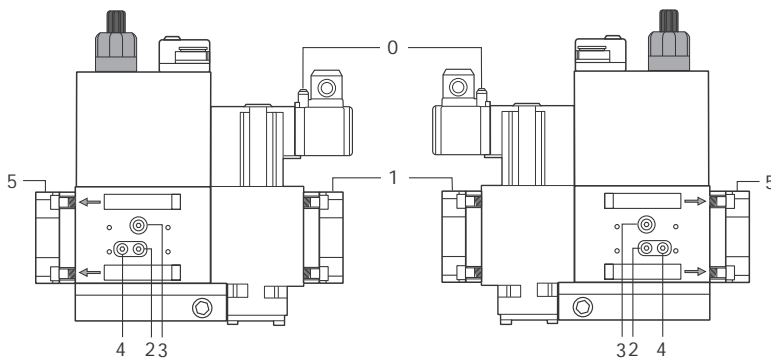
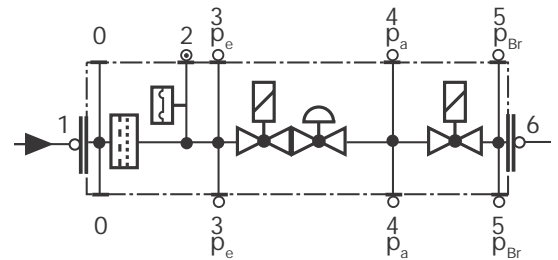

Fig. 37
Fig. 38
- Change the filter if the pressure difference between pressure connection 1 and 2 (Fig. 37-Fig. 38)  $\Delta p > 10$  mbar.
- Change the filter if the pressure difference between pressure connection 1 and 2 (Fig. 37-Fig. 38) is twice as high compared to the last check.